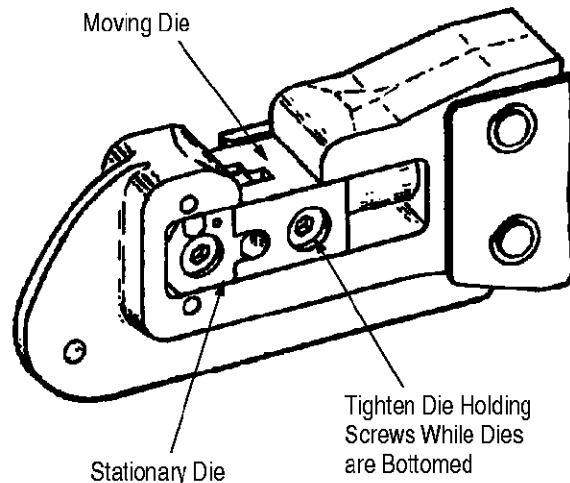

Figure 2
2. Position stationary die in stationary die holder and moving die in moving die holder. Refer to Figure 2. Fasten die holding screws enough to hold dies in place but do NOT tighten fully.
2. Remove die holder plate from stationary die holder of the tool head. Position the stationary die in the stationary die holder and the moving die in the moving die holder. Refer to Figure 2. Fasten die holding screws enough to hold dies in place but do NOT tighten fully.